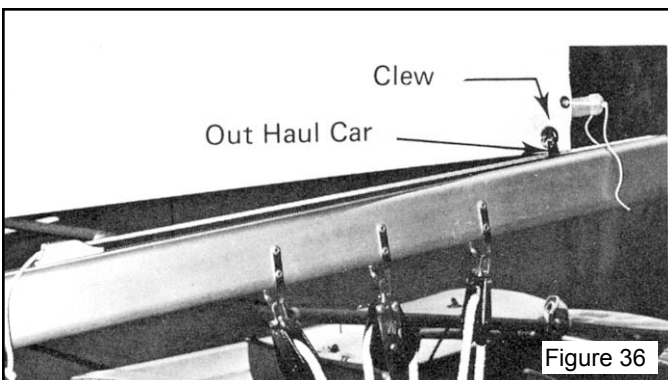

Figure 36
8. Attach the outhaul car on the boom to the clew of the main. See Figure 36.